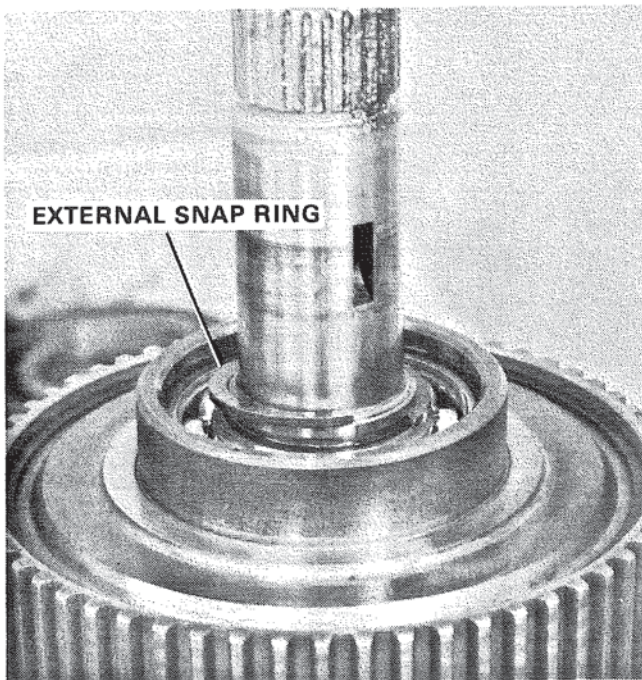

Figure 23. Removing External Snap Rings.
3. Stand drive gear and clutch assembly in suitable fixture and remove internal and external snap rings at ball bearing from the drive gear and clutch cylinder. Figures 23 and 24. Do not permit drive gear